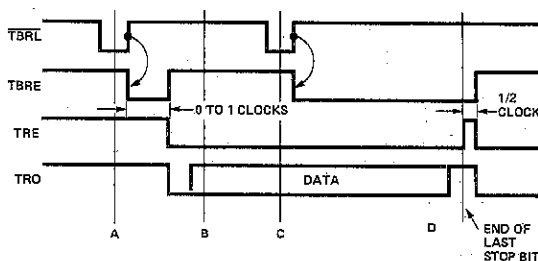

FIGURE 7. Transmitter Timing (Not to Scale)
Transmitter timing is shown in Figure 7. (A) Data is loaded into the transmitter buffer register from the inputs TBR1 through TBR8 by a logic low on the TBRLoad input. Valid data must be present at least  $t_{DS}$  prior to and  $t_{DH}$  following the rising edge of TBR1. If words less than 8 bits are used, only the least significant bits are used. The character is right justified into the least significant bit, TBR1. (B) The rising edge of TBR1 clears TBREmpty. 0 to 1 clock cycles later, data is transferred to the transmitter register, TREmpty is cleared and transmission starts. TBREmpty is reset to a logic high. Output data is clocked by TRClock, which is 16 times the data rate. (C) A second pulse on TBRLoad loads data into the transmitter buffer register. Data transfer to the transmitter register is delayed until transmission of the current character is complete. (D) Data is automatically transferred to the transmitter register and transmission of that character begins.